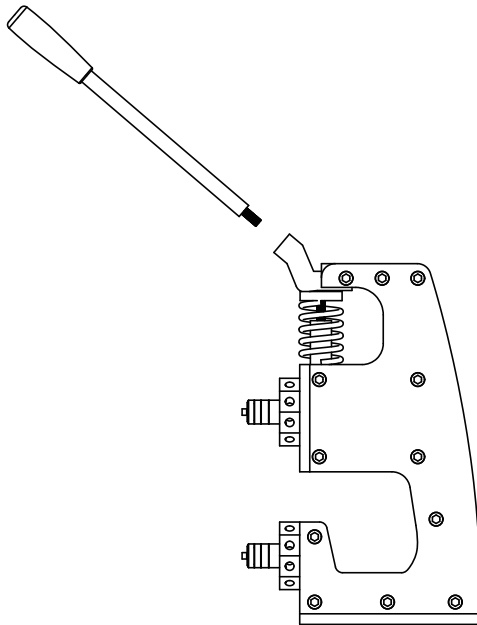

Fig.1
1. Screw the Handle (E) into the handle connector (B) and tighten securely(Fig. 1);